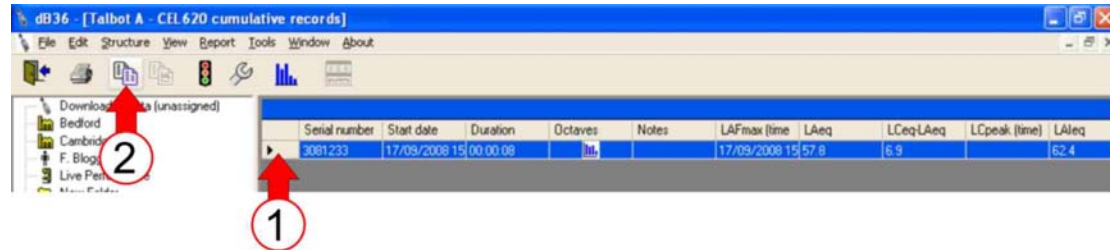

Figure 23 Copying Cumulative Data
- C. When the data has been downloaded to the PC a Download Summary window is displayed giving the option to keep the data on the CEL-6X0 or to permanently delete the data from the CEL-6X0 (Refer to Figure 23). The downloaded data will be displayed under the 'Downloaded data (unassigned)' icon at the top of the tree structure. At this stage the downloaded data is unassigned to any person or place created in the tree view.